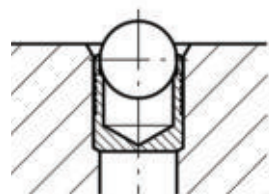

Fig. 1
- With the ball facing out the KOENIG EXPANDER® is inserted in the counterbored hole. The top sleeve should not be above the surface of the base material (Fig. 1).